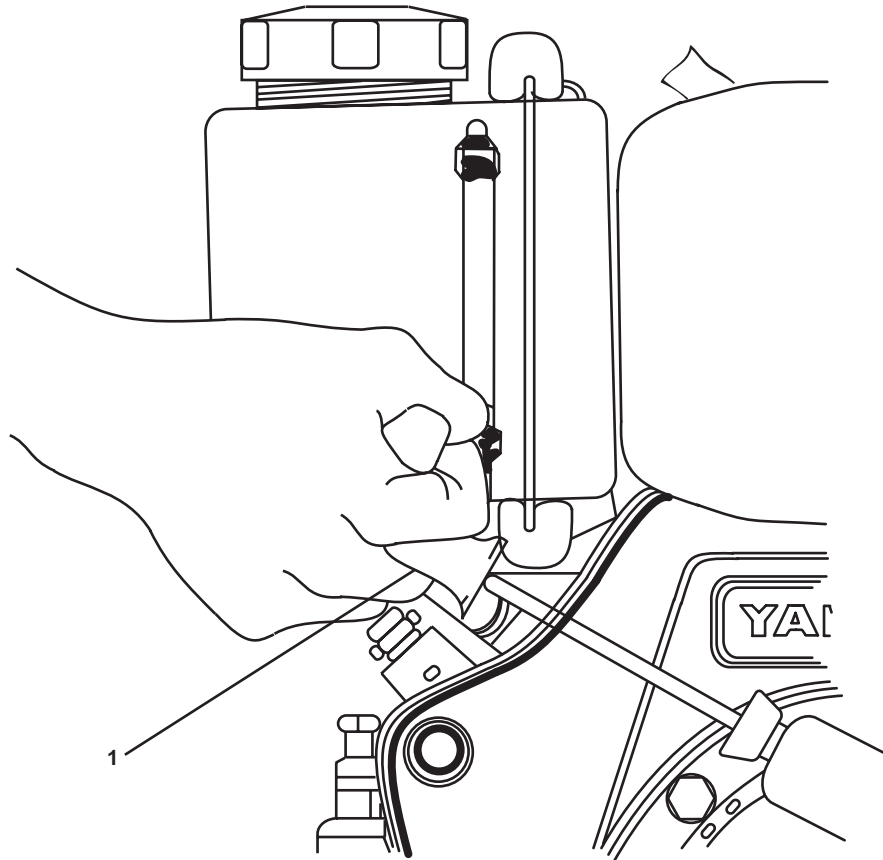

Figure 5. P-100 Portable Dewatering Pump Recoil Starter Rope
6. Slowly pull on the recoil starter rope (figure 5, item 1) while checking the engine and pump for freedom of movement.
8. Start the engine by pulling the recoil starter rope (figure 5, item 1).